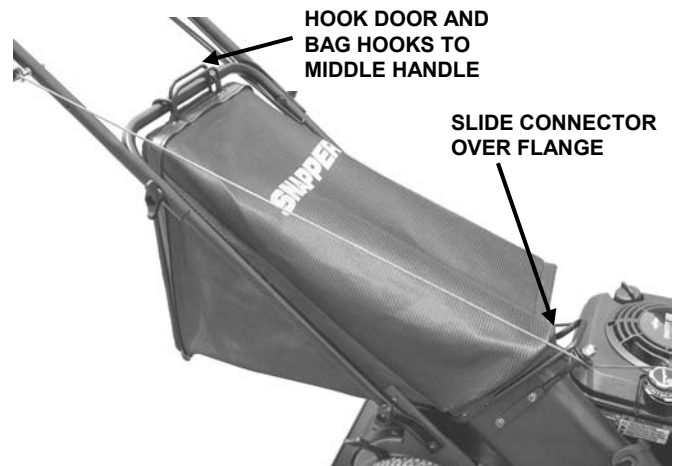

FIGURE 2.15
STEP 2: Install grass bag by opening adapter cover and sliding connector over adapter flange. See Figure 2.15.
STEP 3: Attach grass bag hooks over middle handle cross bar. See Figure 2.15.